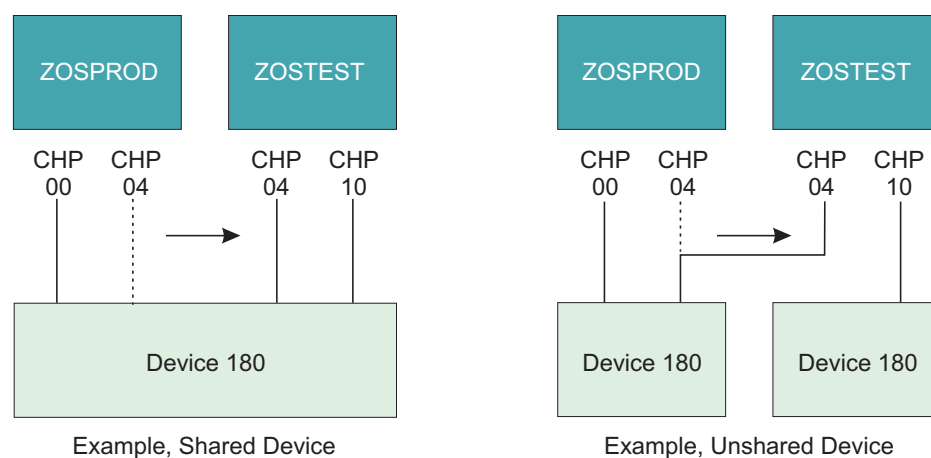

Figure 21. Two examples of duplicate device number conflicts
Examples of duplicate device number conflicts: Figure 21 provides two examples of duplicate device number conflict.
The following example shows the IOCP statement for Figure 21. Both examples use identical IOCP statements.
In Figure 21 on page 61, ZOSTEST can access device 180 only through channel path 10 if the operator takes no action in response to the conflict message.
1. Configure offline the original channel path (CHP 10 in Figure 21 on page 61).
2. Configure offline and then online the reassigned channel path (CHP 04 in Figure 21 on page 61).
3. If necessary, configure online the original channel path (CHP 10 in Figure 21 on page 61). Another conflict message is issued because a new conflict has been created. The operator then ignores this conflict as described in option A. (Access is still allowed to any nonconflicting devices on the original channel path.)
In Figure 21 on page 61, ZOSTEST can access device 180 only through channel path 04 if the preceding steps are performed in response to the conflict message.
In Figure 21 on page 61 (shared device), ZOSTEST can access device 180 through CHP 04 and CHP 10 if CHP 04 is defined to ZOSTEST in the IOCDs.
In Figure 21 on page 61 (unshared device), ZOSTEST can access either device 180 (unshared device) if one or both of the devices are assigned a new device number in the IOCDS.
In Figure 21 on page 61, if ZOSTEST is not active when CHP 04 is reassigned, or ZOSTEST is deactivated and then activated after CHP 04 is reassigned, ZOSTEST does not activate until the conflict over device 180 is resolved.